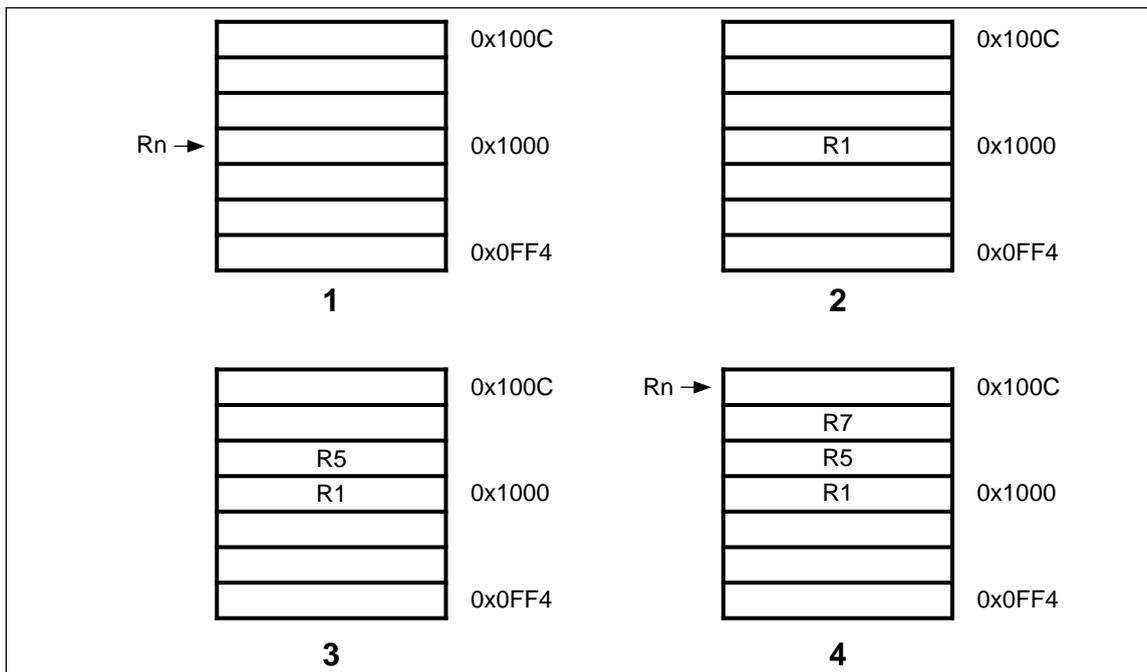

Figure 4-16: Post-increment addressing
The transfer addresses are determined by the contents of the base register (Rn), the pre/post bit (P) and the up/down bit (U). The registers are transferred in the order lowest to highest, so R15 (if in the list) will always be transferred last. The lowest register also gets transferred to/from the lowest memory address. By way of illustration, consider the transfer of R1, R5 and R7 in the case where Rn=0x1000 and write back of the modified base is required (W=1). Figures 4-16, 4-17, 4-18 and 4-19 show the sequence of register transfers, the addresses used, and the value of Rn after the instruction has completed.